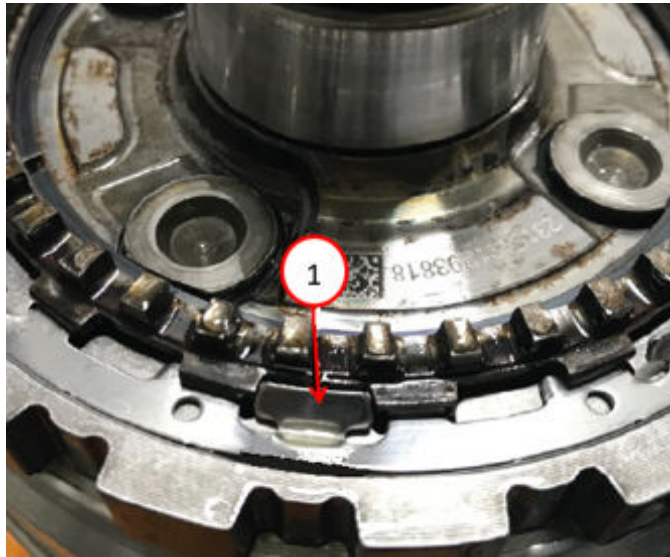

Fig. 26
40. Install the NEW P4 planetary carrier/output shaft lock ring from the P4 annulus drum by turning the lock ring to center the lock ring tabs in the output shaft tab openings and gently staking the locking tabs closed Fig. 26.